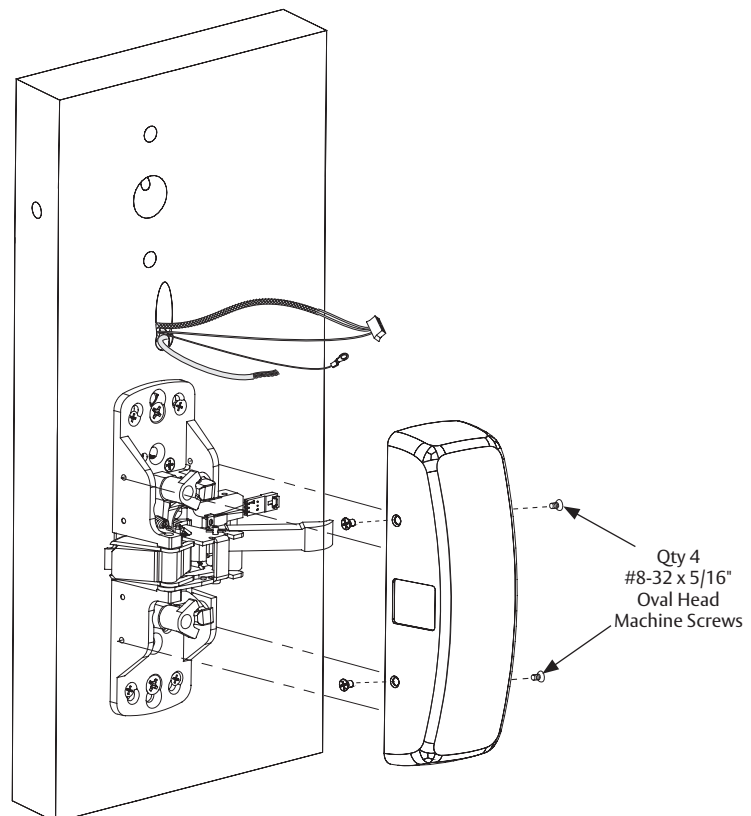

Figure 5-8
Secure chassis cover to chassis using four (4) #8-32 x 5/16" oval head machine screws (Figure 5-8).